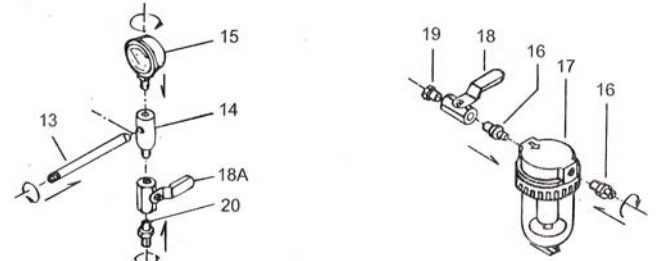
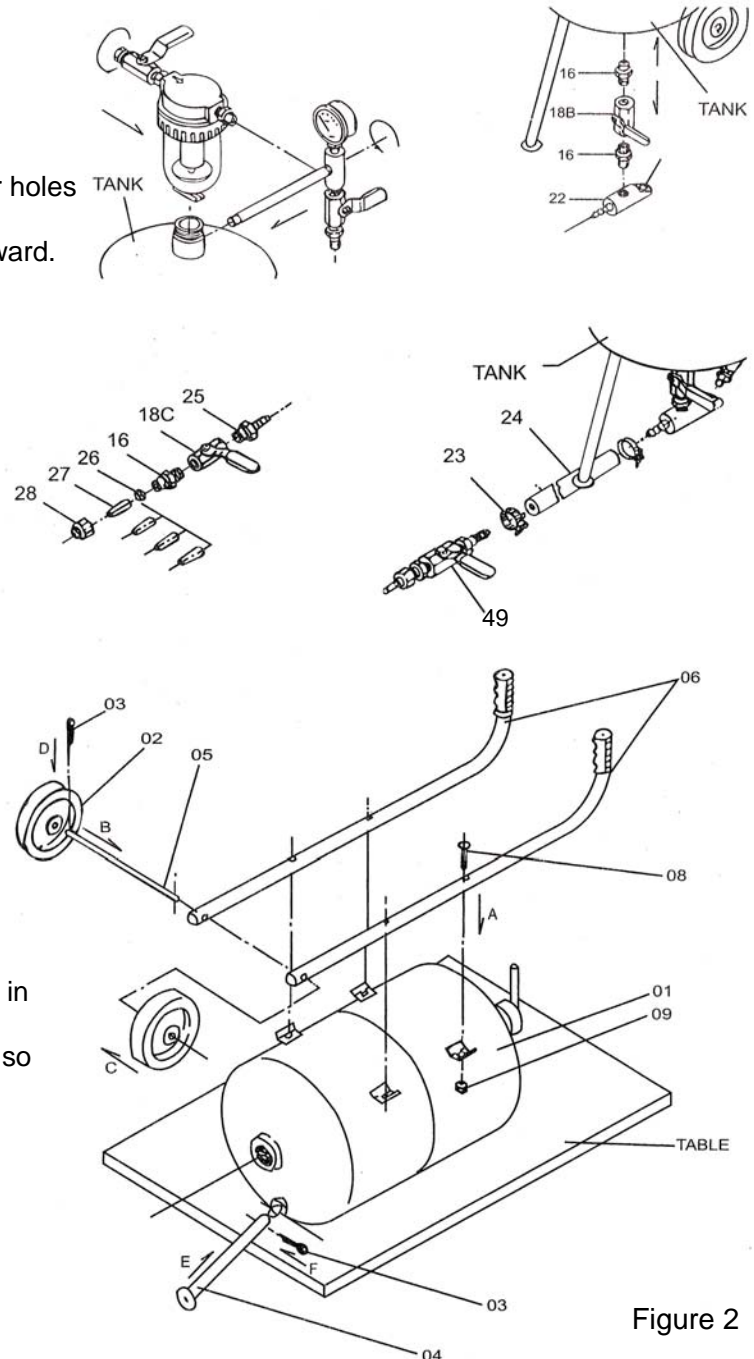

Figure 1
Figure 2
1. Follow the diagram at right to install the various components (Figure 1).
2. Slide the two hose clamps (23) over each end of the Abrasive Hose (24) surface.
3. Press one end of the hose, over the nipple on the Abrasive outlet pipe (22). Press the other end over the Abrasive Safety Trigger Hose Adapter (49).
5. Lay the Abrasive Blast Tank on a flat level surface (such as a workbench or table top), with the handlebar mounting brackets facing up. (Figure 2)
6. Align the 4 holes in the Handlebar (06) with the four holes in the handlebar mounting brackets. Note: Keep the curved end of the handle facing upward.
7. Place a Washer onto each of the four handlebar mounting Screws (08) and insert them through each of the four holes.
8. Place a nut (09) onto the end of each screw and firmly tighten with a wrench.
9. Locate the Wheel Axle (05) and slide it through the axle holes located at the bottom of the handlebar.
11. Slide a wheel (02) onto each end of the wheel axle.